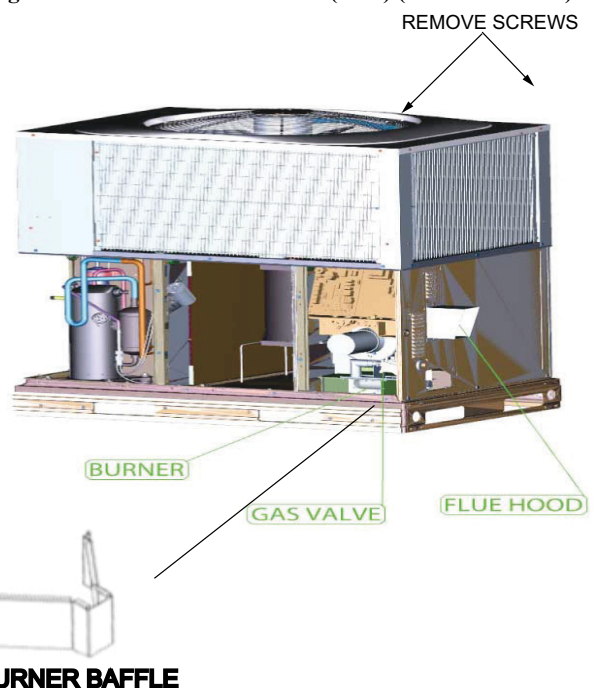

Fig. 21 – Blower Housing, Flue Collector Box and Burner Heat Exchanger Assembly (Ultra Low NOx)
2. Remove the 11 screws holding the flue collector box cover (See Fig. 21) to the heat exchanger assembly. Inspect the heat exchangers.
Unit is equipped with a direct spark ignition 100 percent lockout system. Ignition module (IGC) is located in the control box (See Fig. 21). Module contains a self-diagnostic LED. During servicing, refer to label diagram or Table 6 in these instructions for LED interpretation.
Ultra Low NOx Burner Baffle Inspection/Cleaning (See Fig. 21.)